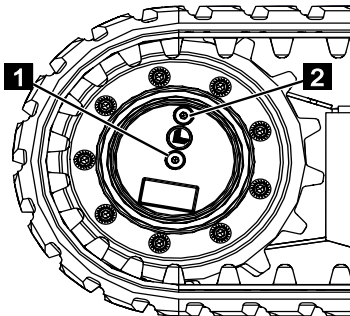

Fig. 253
8. Re-tighten the screw connections (Fig.253/1 and 2) with the seals or copper washers.